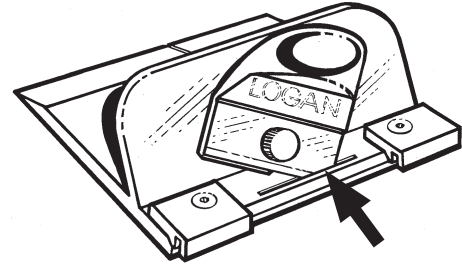

Fig. 4
**NOTE:** Adjust blade to foamboard (fully extended), standard mat board (middle setting) or safety (fully retracted) (Fig. 4).